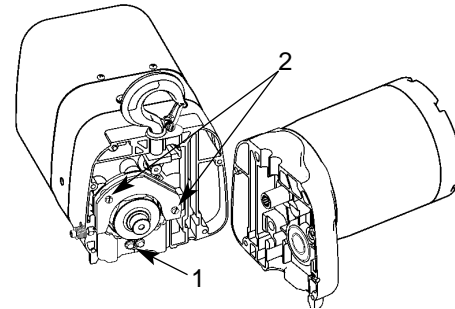

Figure 5 — Chain Replacement with No Chain in Hoist
- Turn the two hoist sections at right angles and remove the chain guide screws and the nearest chain guide (Ref. No. 1, Figure 5).